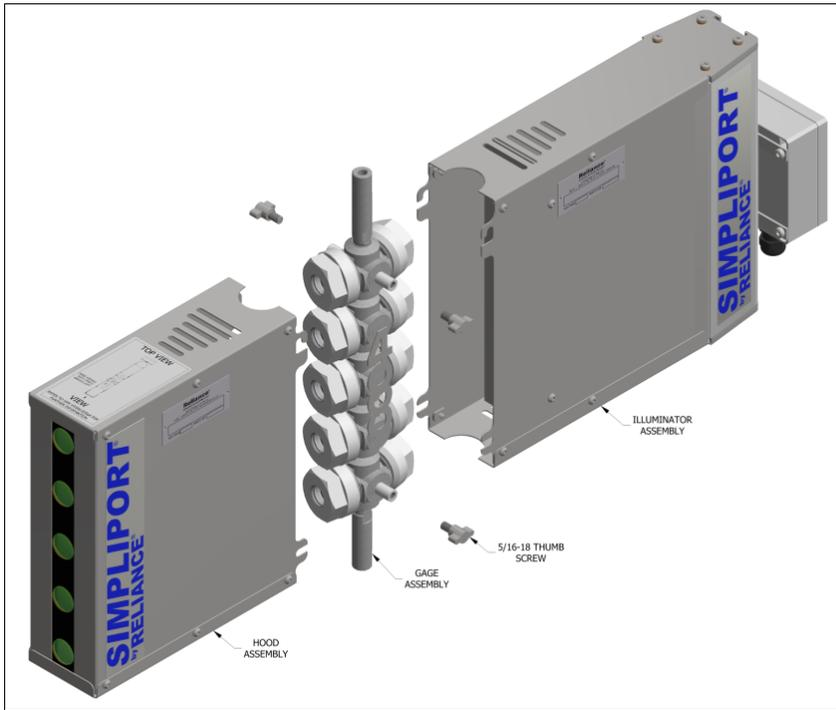

Figure 1
- 1) Install the (4) 5/16-18 Wing Screws into the mounting lugs on both sides of the Simpliport Gage, leaving approximately ¼” unthreaded (Ref. Fig. 1) Note: If retrofitting a new illuminator and hood assembly, remove the existing mounting bars before installing the Wing Screws.